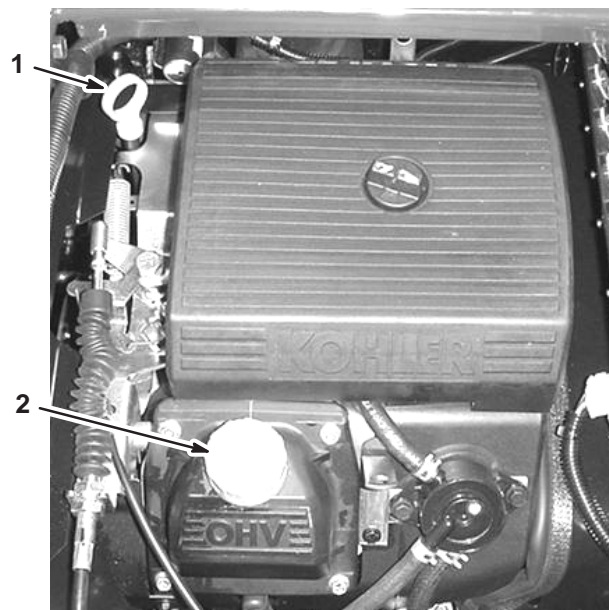

Figure 5
2. Remove the dipstick and wipe it with a clean rag (Fig. 5). Insert the dipstick into the tube and make sure it is seated fully. Remove the dipstick and check the oil level.
3. If the oil level is low, remove the filler cap from the valve cover (Fig. 5) and pour oil into the opening until the oil level is up to the Full mark on the dipstick; refer to Servicing Engine Oil, page 29, for the proper oil type and viscosity. Add the oil slowly and check the level often during this process. **Do not overfill.**